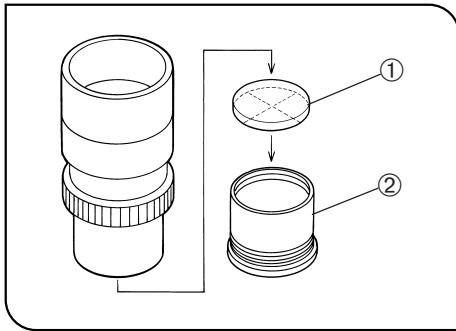

Fig. 22
#### 4 Using Eyepiece Micrometer Disks (Fig. 22)
Following Fig. 22, remove the micrometer mounting frame ② from the eyepiece and place a micrometer disk ① into the mounting frame so that the surface with the model indication faces downward.